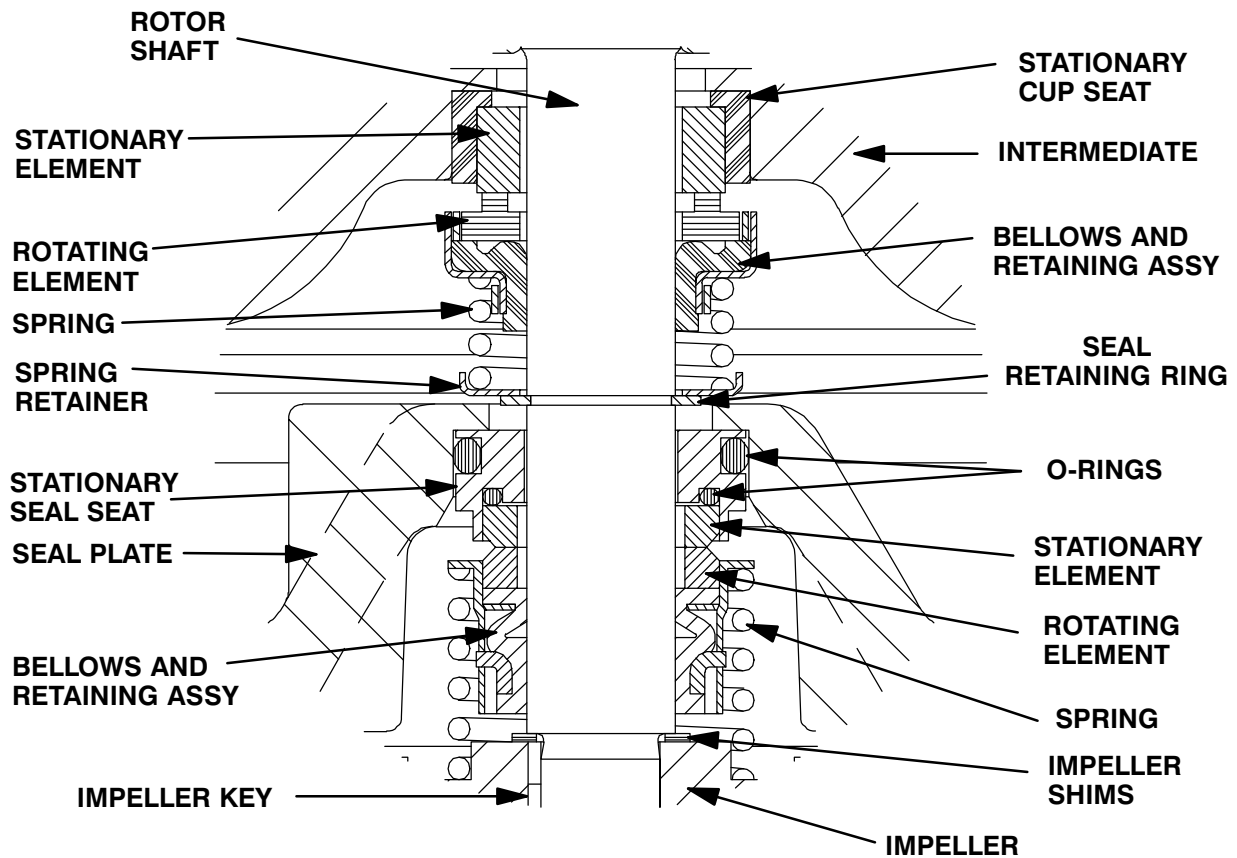

Figure C-4. Upper And Lower Seal Assemblies
Install the shaft seals as illustrated in Figure C-4.
Apply a **light** coating of oil to the seal seating surface on the shaft, the groove for the retaining ring (36), and I.D. of the bellows. Inspect the seal face to ensure that it is clean and dry. If cleaning is necessary, use a clean tissue to wipe in a circular pattern. Slide the seal rotating portion onto the lubricated shaft as shown in Figure C-4. Apply firm, steady pressure on the seal retainer until it slides down the shaft and the seal faces contact.
Slide the seal spring over the shaft and bellows retainer, and install the spring retainer. Carefully compress the seal spring and install the seal retaining ring (36). See Figure C-4 for the proper order of seal assembly.
Unpack the stationary seat and element, and check that the O-rings are properly installed (see Figure C-4). Subassemble the stationary element in the stationary seat. Apply a **light** coating of oil to the seal plate bore and the O.D. of the of the seal seat. Keep the sealing face dry.
Slide the seal spring over the shaft and bellows retainer. See Figure C-4 for proper order of seal assembly.